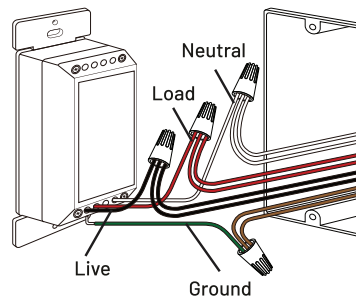

Figure 1
6. Prepare to terminate (connect) the wires to the **Power Switch**. Refer to **Figure 1**. The following wires should have been removed from the existing switch, ready to terminate on the new switch:
If there are multiple neutral wires in the box, as shown in **Figure 1**, you may need to furnish a jumper wire, to connect the neutral wires to the **Power Switch**. If you do not have wire on hand, if there is enough spare length or slack in the wires, you may be able to cut off a short section, to make a jumper wire.
8. Connect the wiring to the **Power Switch**. Place the switch's live (black) wire, and the live wire(s) in the box under one wirenut, twisting the wirenut until tight. "Wirenut" the remaining wires together, as shown in **Figure 1**.